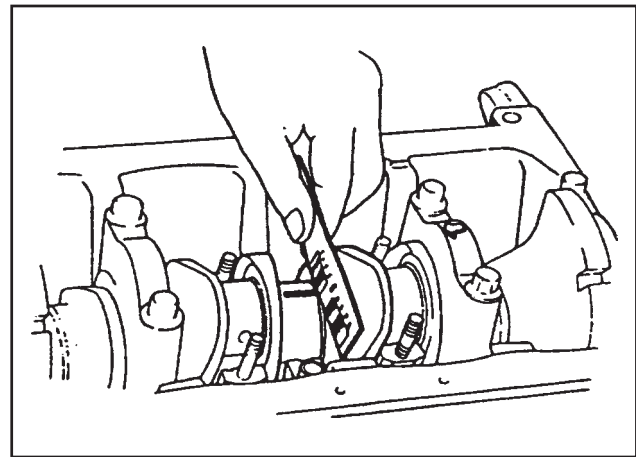

FIGURE 30. CHECK THE CLEARANCE FOR THE MAIN BEARINGS
2. Measure the clearance between the main bearings and the crankshaft. Install the crankshaft in the block. Put a plastic gauge material on the journals and install the main bearing caps. Tighten the capscrews for the main bearing caps to 82 to 88 N.m (840 to 900 kgf·cm). Remove the bearing caps. See FIGURE 30. The correct clearance is 0.031 to 0.049 mm. If the clearance is greater than the specifications, replace the main bearings.